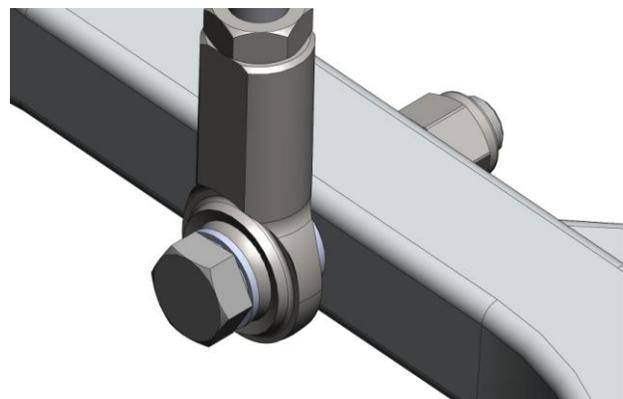

Figure 17
- b. Attach rod-end onto right control arm with 3/8-24 bolt, washer, bearing (rod-end), washer, control arm, washer and nut. See **Figure 17.**